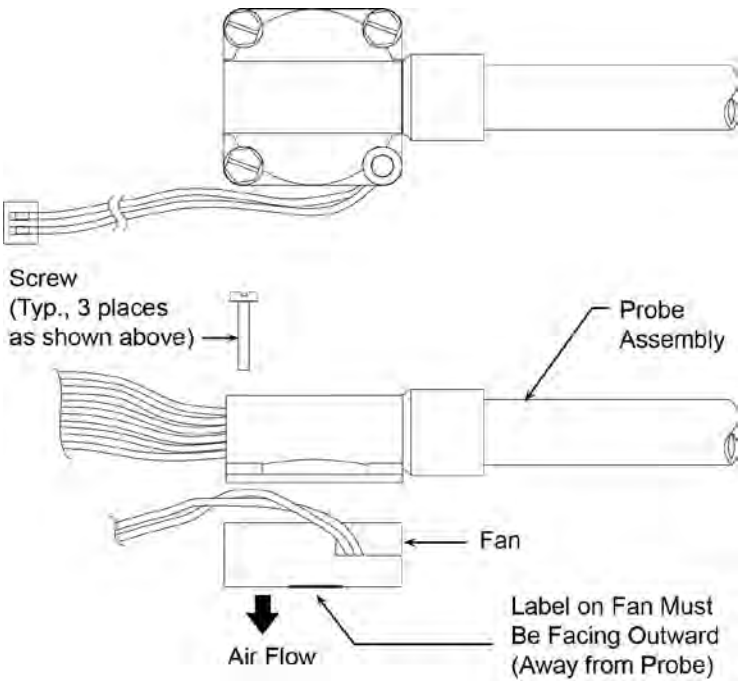

Figure 7. Fan Installation
5. Remove fan from probe assembly by removing its three screws as shown in Figure 7.
See Figure 7 for instructions on how to replace the fan.